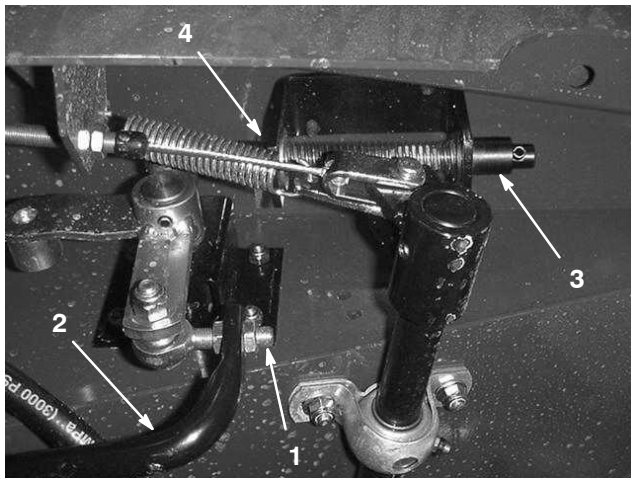

Figure 68
3. Loosen the jam nuts on the rod end and adjust the traction rod length (Fig. 68) so that the pedal contacts the pedal stop when the pump lever reaches full stroke. Secure the jam nuts.